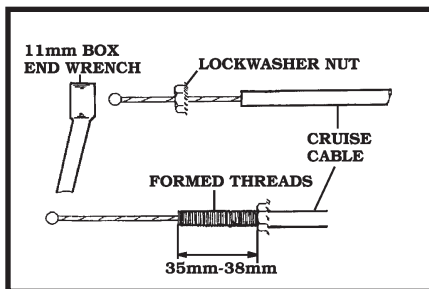

Figure 20
1. To use the **SNAP-IN ADAPTOR**, it will be necessary to form threads on the end of the **CRUISE CABLE**. This is easily accomplished by placing the **LOCKWASHER NUT** on the end of the **CRUISE CABLE** with your fingers. Then using an **11mm** box end wrench and turning clockwise until the desired amount of threads have been formed. **Figure 20**
3. Before using the **LOCKWASHER NUT**, remove the Adjustable sleeve from the **CRUISE CABLE**. Then use the **LOCKWASHER NUT** to form threads on the end of the **CRUISE CABLE**. This is easily accomplished by placing the **LOCKWASHER NUT** on the end of the **CRUISE CABLE** with your fingers. Then use an **11mm** box end wrench and turn clockwise until the desired amount of threads have been formed **Figure 20**.
1. Before using the **FLAG NUT**, it will be necessary to form threads on the end of the **CRUISE CABLE**. This is easily accomplished by placing the **LOCKWASHER NUT** on the end of the **CRUISE CABLE** with your fingers. Then use an **11mm** box end wrench and turn clockwise until the desired amount of threads have been formed. **Figure 20, Page 15**